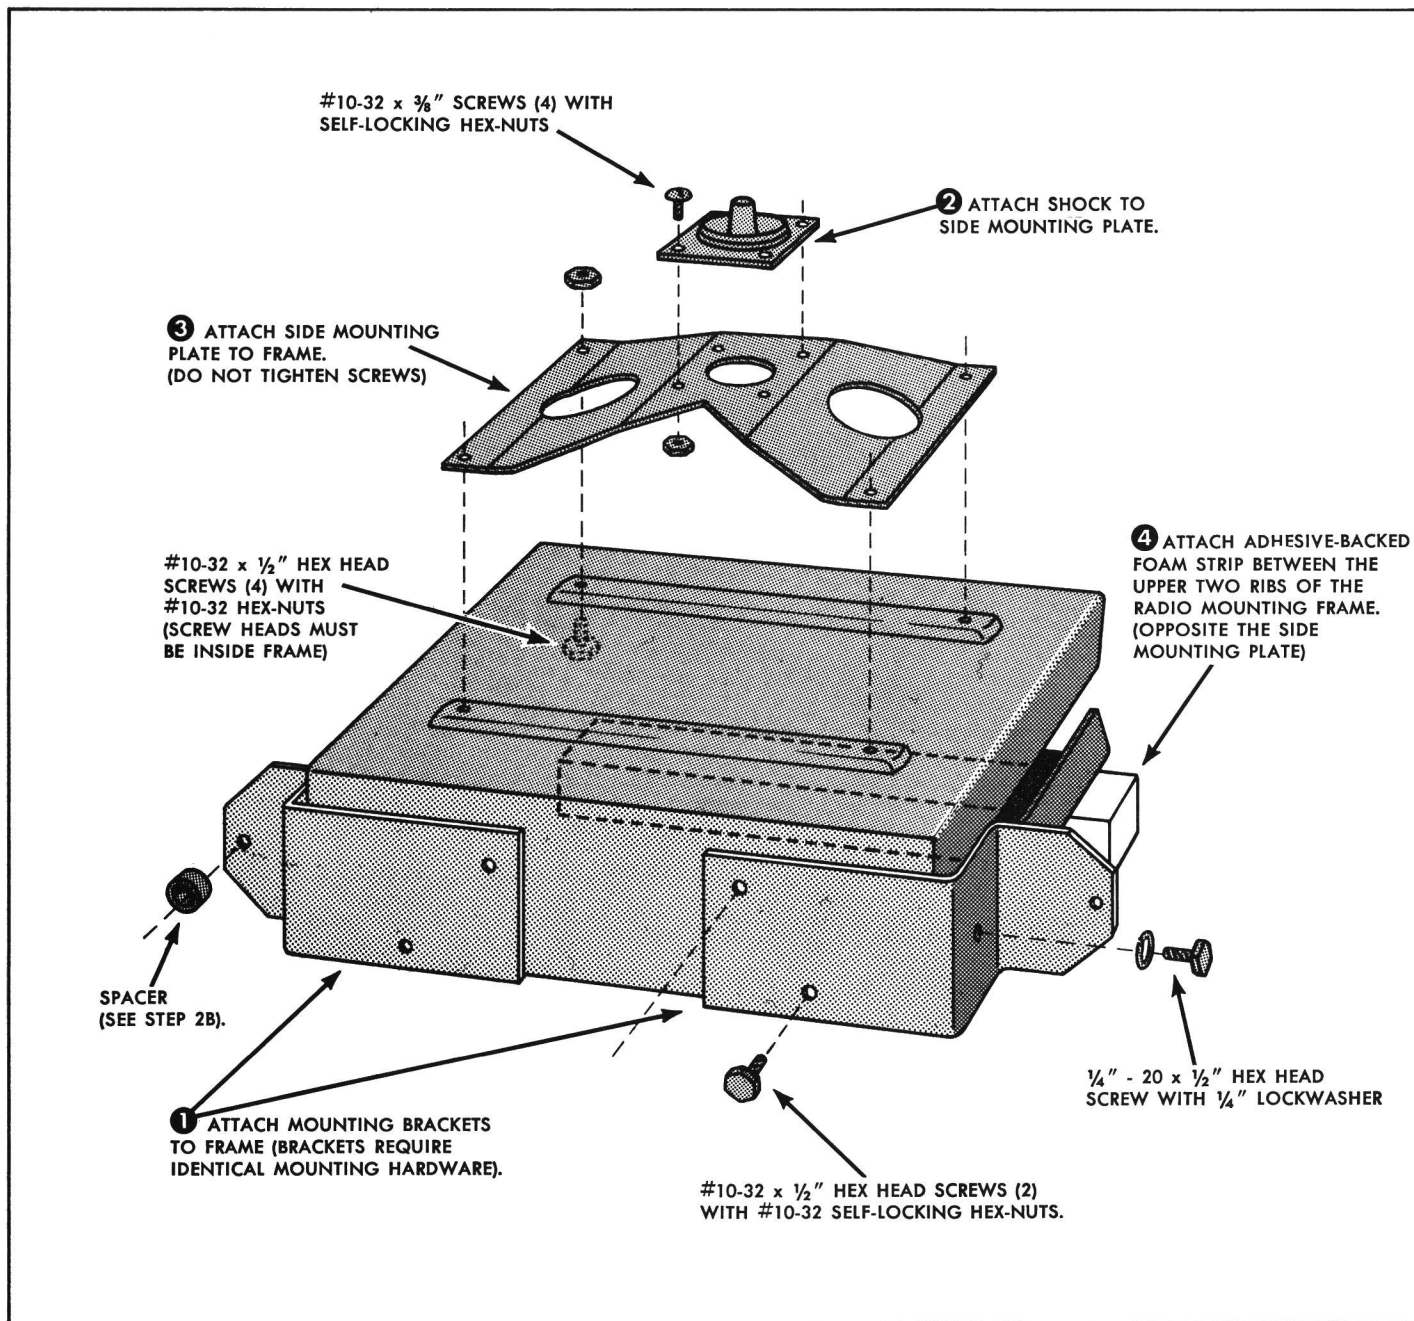

FIGURE 3 — RADIO MOUNTING FRAME ASSEMBLY
a. Assemble the Radio Mounting Frame as shown in Figure 3.
b. Place the Radio Mounting Frame Assembly into the saddlebag with side mounting plate toward the motorcycle fender. (Be sure spacer shown in Figure 3 is between the rear shock and mounting bracket).
f. Secure the side shock to the saddlebag with $\frac{1}{4}$ " - 28 x $\frac{9}{16}$ " screw and 2" steel washers (2). Place one washer on each side of the saddlebag.